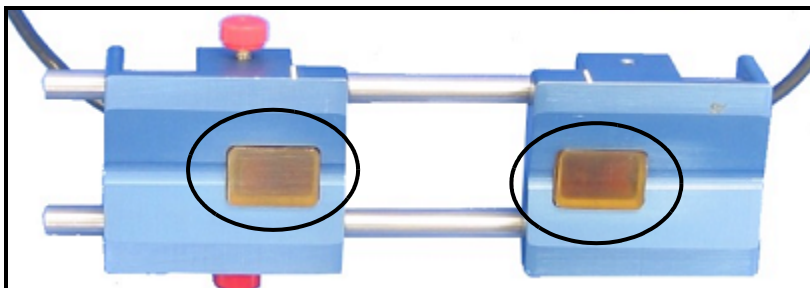

Figure 9: The Transducer Faces
1. Apply the supplied couplant to the transducer faces, as shown in *Figure 9* below.